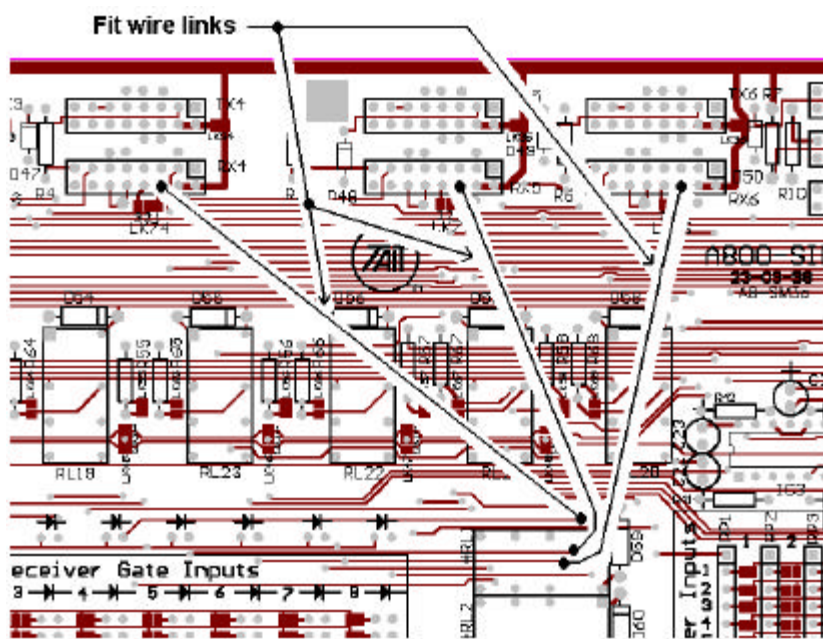

Fig 2.
8. On the A800-SIM3a PCB, place the wire jumpers as shown in Fig 2. These links connect the coils of relays RL1, 2 & 3 to the RX Gate inputs on pin 11 of ports 4, 5 & 6, which allows the RXGATE inputs to directly control these relays and switch audio to the SEL_REC selcall module. Connections should be made on the solder side. These links are equivalent to making connections between the following points;